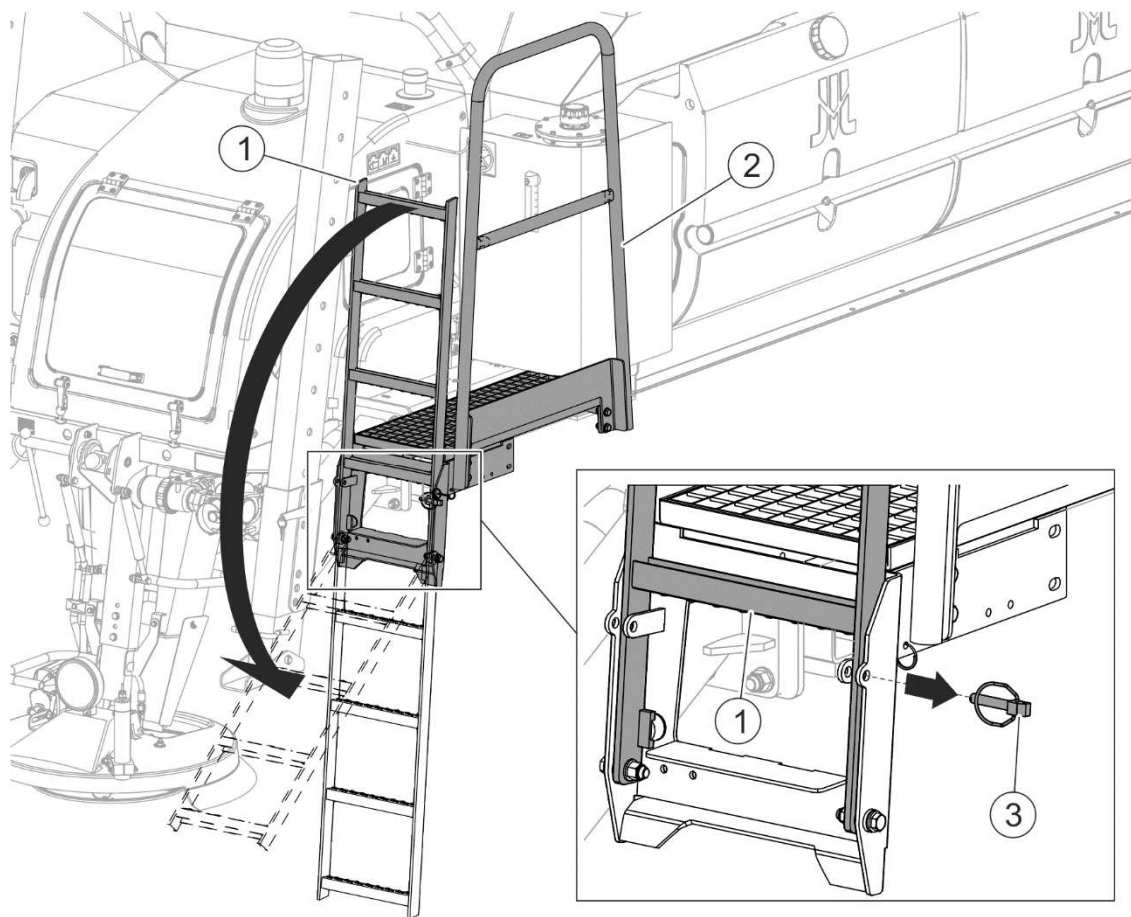

FIGURE 4.17 Platform with ladder
(1) - ladder; (2) - platform; (3) - securing cotter pin
The platform (FIGURE 4.17) fitted with ladder (1) facilitates raising and lowering the tarpaulin cover.
To lower (FIGURE 4.17) the ladder: